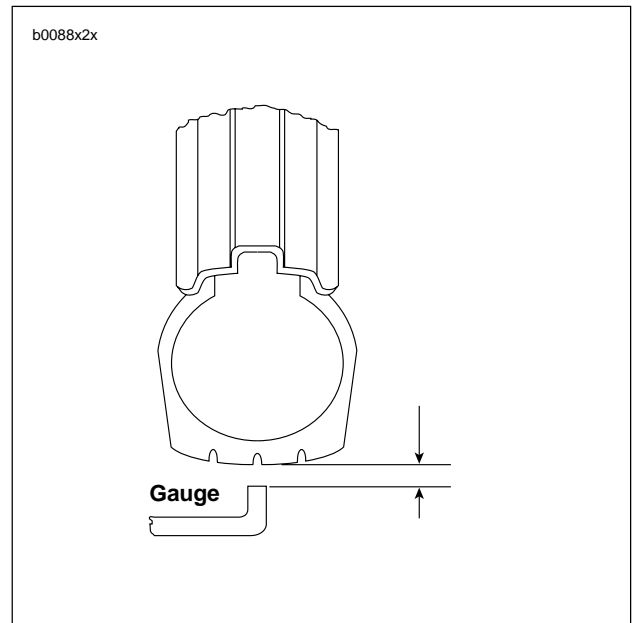

Figure 2-31. Checking Tire Radial Runout
1. See Figure 2-31. Turn wheel on axle and measure tread radial runout.